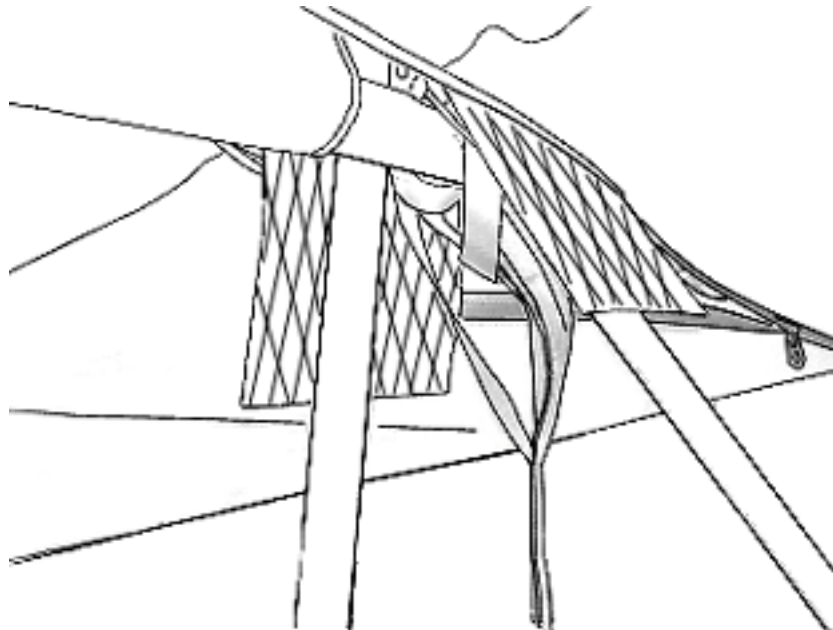

Fig. 15
4.1.6. Unzip the bottom surface and orientate the paddings sewed on the sail so that they protect the hardware fittings of the uprights from the contact with sail (Fig. 15). Zip the zipper.